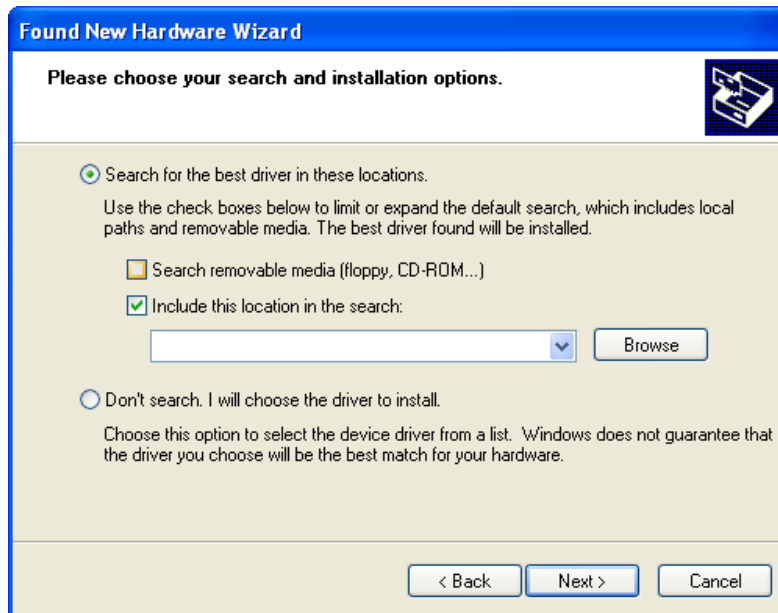

Figure 4 – Screen, New Hardware Wizard (Choosing to Search for Driver)
- 2) Either of the two choices given in Figure 4 will correctly install the new hardware onto the PC, but the automatic installation will take more time because it must search for
- 3) In the *Please choose your search and installation options* dialog, un-check the **'Search removable media (floppy, CD-ROM...)'** and check the **'Include this location in the search:'** check boxes, as shown in Figure 4.